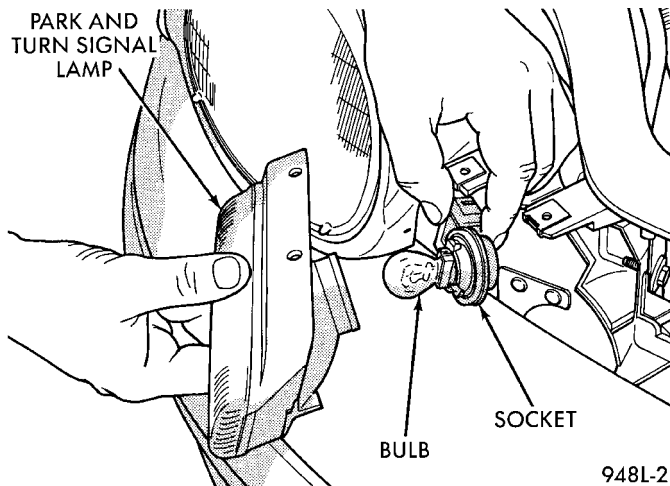

Fig. 3 Park and Turn Signal Lamp Bulb
- (1) Release hood latch and open hood.
- (2) Remove screws holding park and turn signal lamp to headlamp module.
- (3) Separate lamp from module.
- (4) Remove bulb socket from back of lamp.
- (5) Pull bulb from socket (Fig. 3).